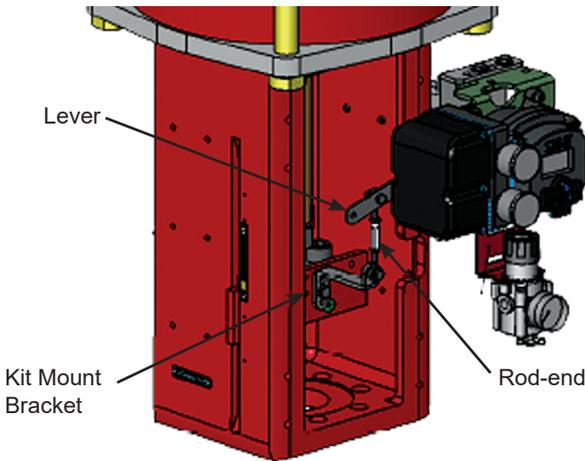

Figure 19 - 84/85/86 Valve
2. Mount the kit mount assembly to the yoke (Figure 19) using helical spring washer 5/16, flat washer 5/16 and hex screw 5/16-18x44.5 [1.75] LG.